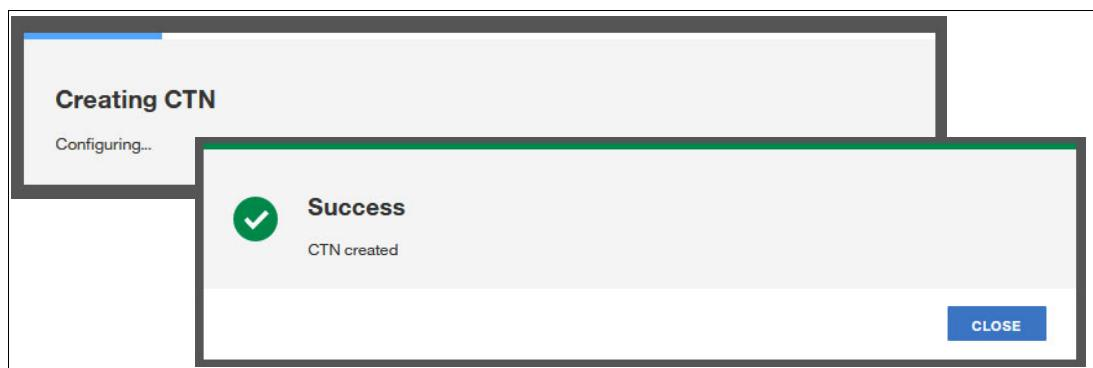

Figure 8-42 Complete window
11. The Creating CTN progress is shown until the operation completes successfully (Figure 8-42). Click **Close** to go back to the initial window.